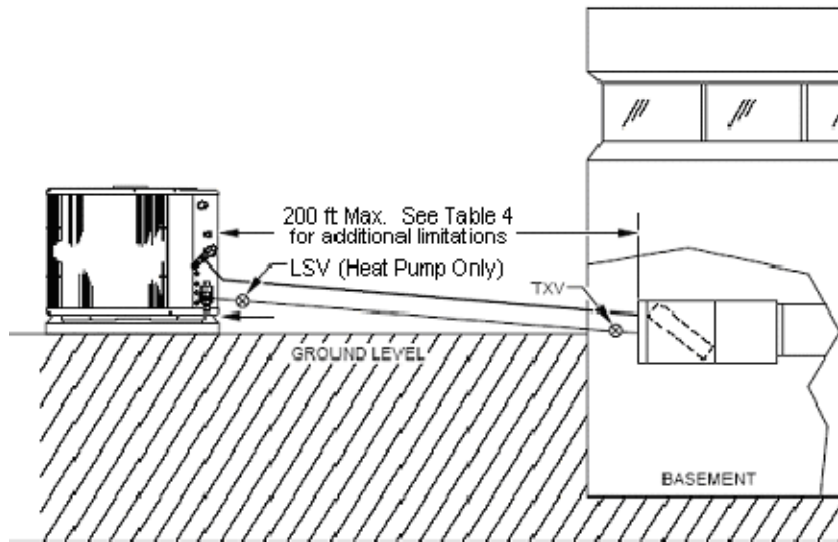

Fig. 2 – R-22 System Equal-Level Applications
- See Table 4 for maximum vertical separation and allowable total equivalent length when outdoor unit is on the same level or below indoor unit (see Fig. 2 and 3).